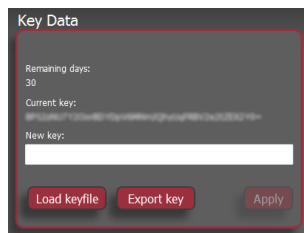

Figure 4-22 Key fill-in window part
5. Press the **Load key file** button under **Key Data** in the right top part of the window, see **Figure 4-22 below**